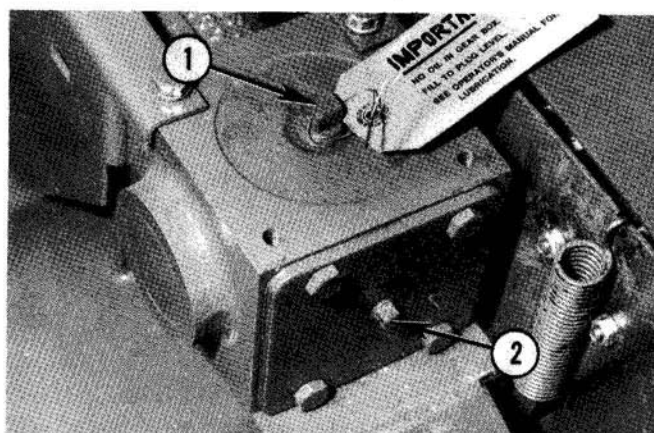

Fig. 3 — Tiller Gearbox
2. Remove breather fill plug and oil level plug as shown in Fig. 3.